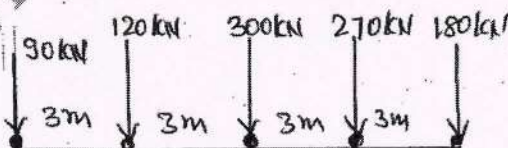

Fig. Q10 (c)
- c. A train of five wheel loads crosses a simply supported beam of span 30 m as shown in Fig. Q10 (c). Calculate maximum positive and negative SF at midspan and absolute maximum BM anywhere in the span. (12 Marks)